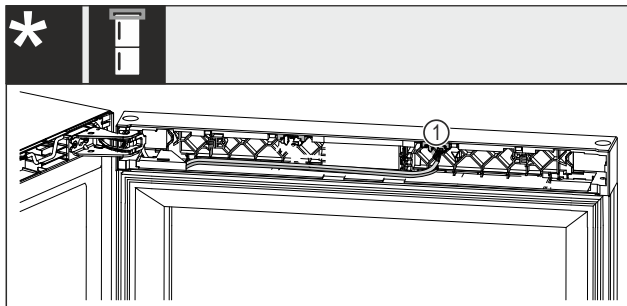

Fig. 22 Wine-freezer combinations*
- Pull the plug Fig. 22 (1) out of the retaining clip.*